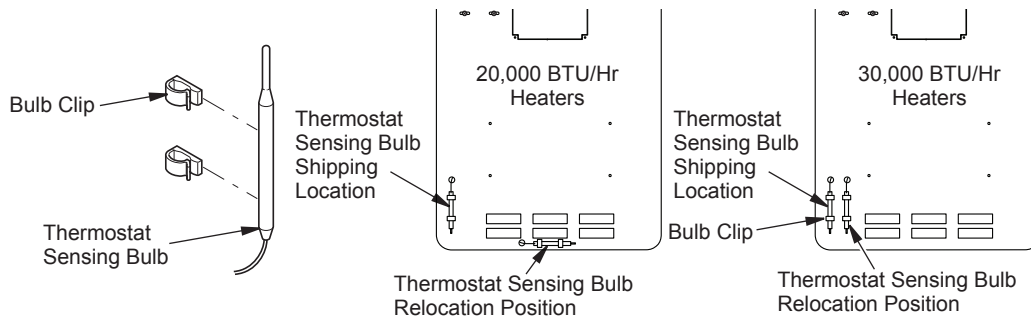

Figure 6 - Moving Thermostat Sensing Bulb Blue Flame Heaters Only
3. Place thermostat bulb inside the clips, then place in approximate location shown in Figure 6.